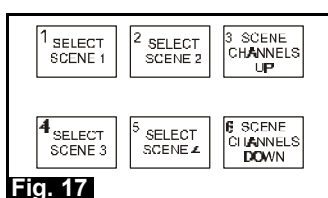

Fig. 17
- 8. WP6M** A WP6 or similar device may be used to select four scenes and also allow up/down adjustment when the Paradime input is set to WP6M in menu 51. The functions of the buttons are shown in Fig. 17 below. Pressing buttons 1, 2, 4 or 5 recalls the scenes allocated to memories 1, 2, 3 and four in menu 34. Buttons 3 and 6 gradually increase/decrease the level of of the channels until they reach 100% or 0. The original scene may be re-instated by pressing the appropriate scene button. Only those channels with levels greater than zero respond to the 'scene channels up' and 'scene channels down' buttons.